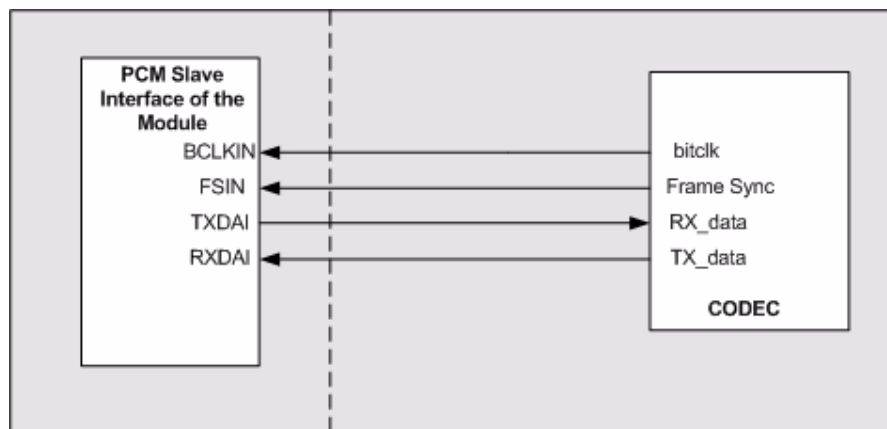

Figure 30: Slave PCM interface application
Figure 30 shows the typical slave configuration. The external codec delivers the bit clock and the frame sync signal. If the codec itself is not able to run in master mode as for example the MC145483, a third party has to generate the clock and the frame sync signal.
1. Use the RC combination as shown in Figure 30 for current limitation.